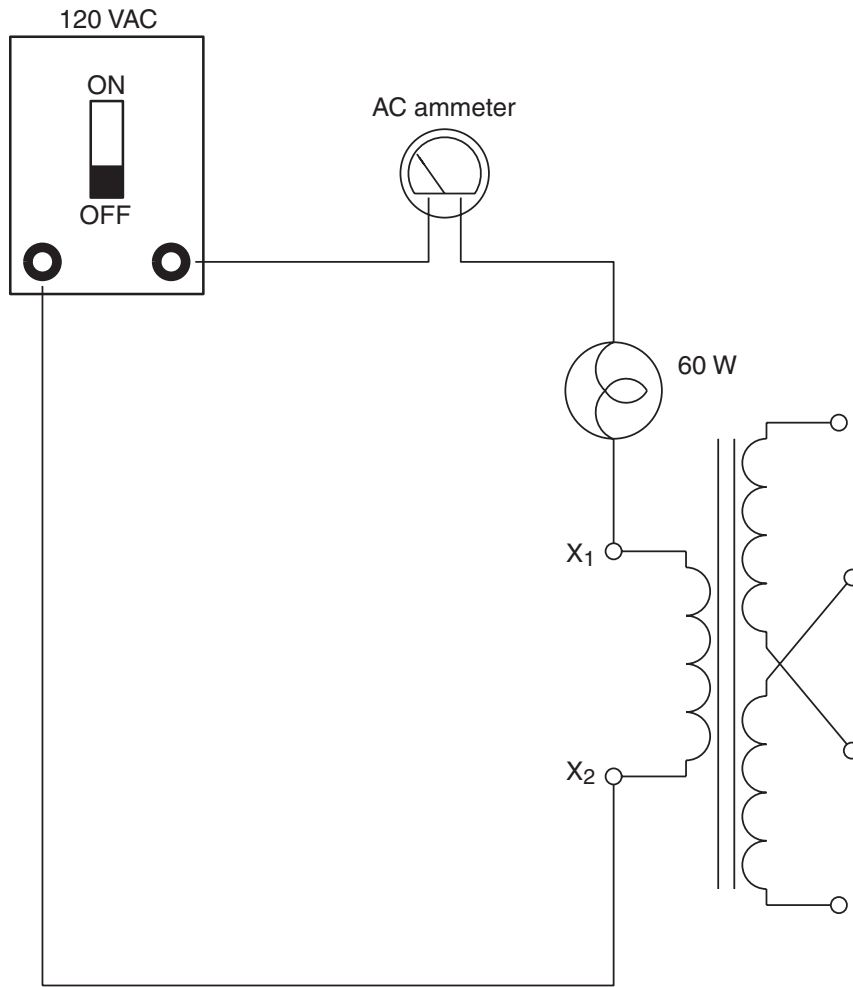

Figure 18-1 Inductive load.
1. Connect the circuit shown in Figure 18-1.